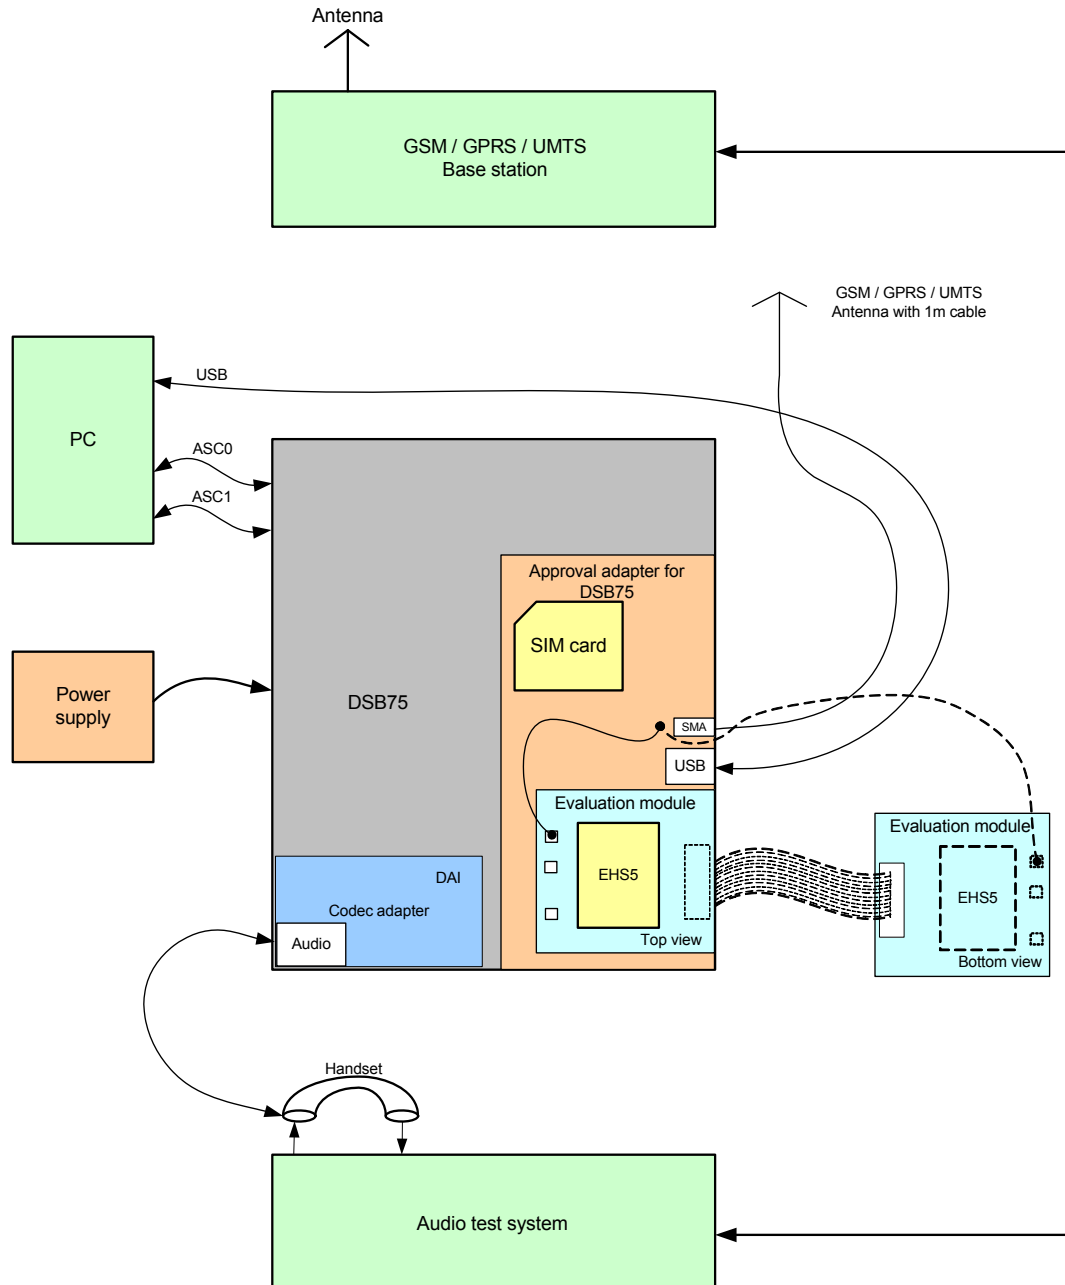

Figure 15: Reference equipment for Type Approval
- For RF performance tests a mini-SMT/U.FL to SMA adapter with attached 6dB coaxial attenuator is chosen to connect the evaluation module directly to the GSM/UMTS test equipment instead of employing the SMA antenna connectors on the EHS5-E/EHS5-USR4-DSB75 adapter as shown in Figure 15. The following products are recommended: